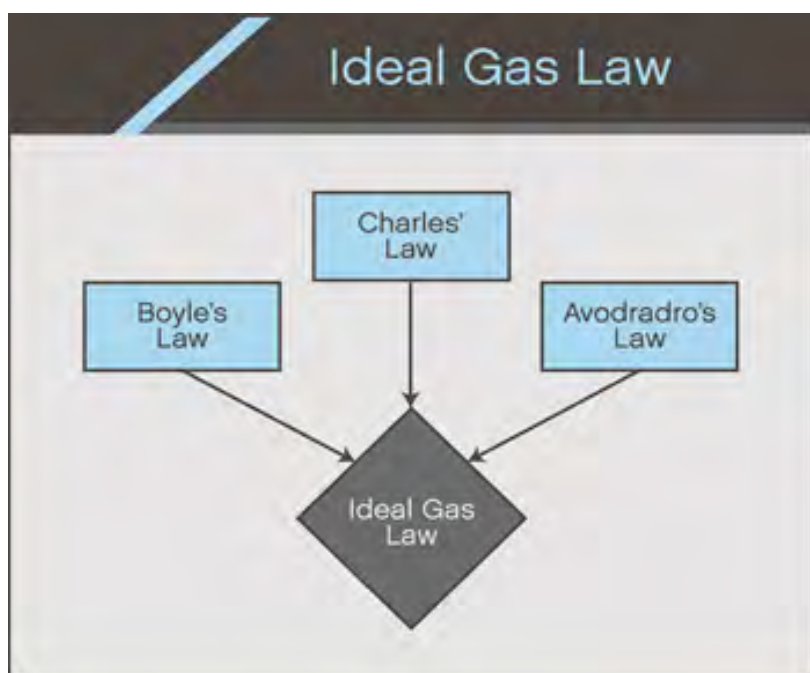

Figure 7. An ideal gas is an idealized model of a real gas.
The **Ideal Gas Law** is a combination of all the simple gas laws (Figure 7). The Ideal Gas Law describes the behavior of real gases as long as the pressure and temperature are not too extreme. The Ideal Gas Law is very valuable when dealing with gases since it establishes a relationship between temperature, pressure, volume, and amount of a gas. The behavior of an ideal gas, that is, the relationship of pressure (P), volume (V), and temperature (T) can be mathematically expressed as: